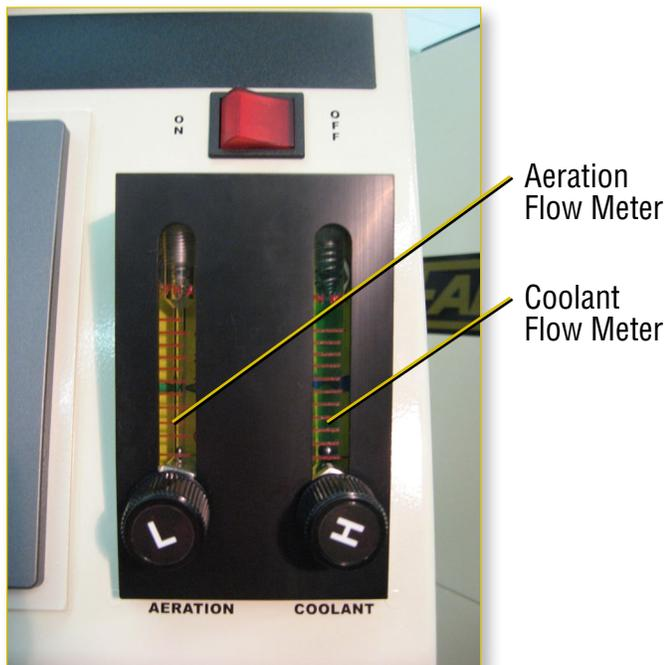
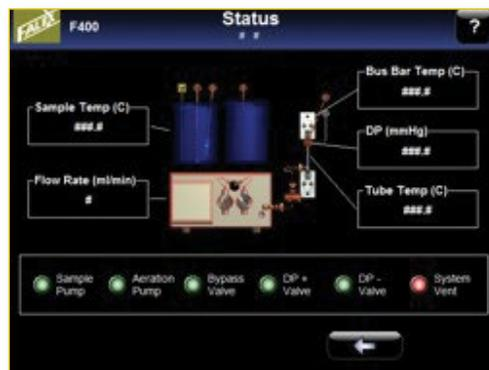
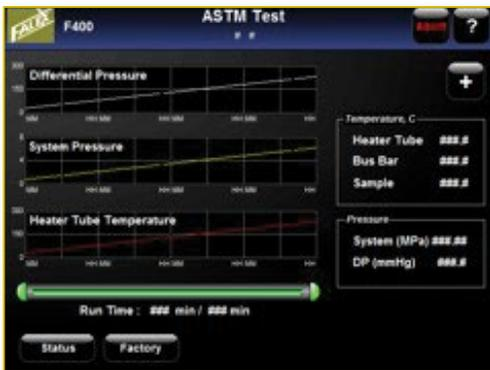
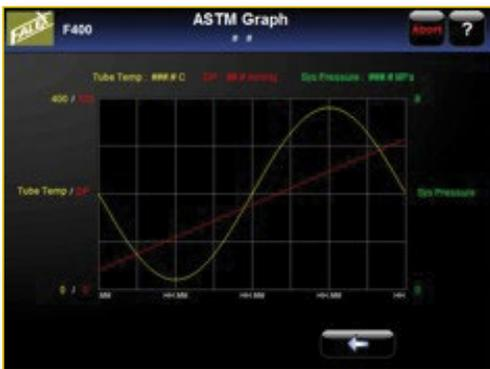

Figure 39 Aeration Coolant Meters
Figure 40 Status Screen
Figure 41a Test run time
Figure 41b System pressure and heater tube temperature
Begin the aeration process by pressing the 'Start' button. An aeration timer begins counting the 6 minutes that the aeration pump is on. Bubbles will appear in the sample beaker from the aeration line filter. Aeration rate is at about 1.5 L/minute when the ball is set in the middle of the green area on the aeration flow meter on the front of the unit. Adjust the flow meter as required [Figure 39]. During aeration, the sample temperature should be held between 15–32°C and the aeration humidity to no greater than 21%. Should the sample temperature or humidity be outside of this range the test will abort. The current values for temperature and humidity appear in the center Data box on the screen. The Digital Points then displays status within the system during aeration. The 'Status' button in the lower left corner opens a pictorial screen of the F400 showing live values of critical measurements [Figure 40].
- The bus bars are cooled once heating of the tube begins. The coolant flow meter should be adjusted to 10 gal/hr flow (middle of the green area) [Figure 39]. The bar at the bottom of the screen gives graphical feedback of the test run time [Figure 41a]. The "+" button on the top right will open a graph with the DP, system pressure and heater tube temperature overlapping [Figure 41b].